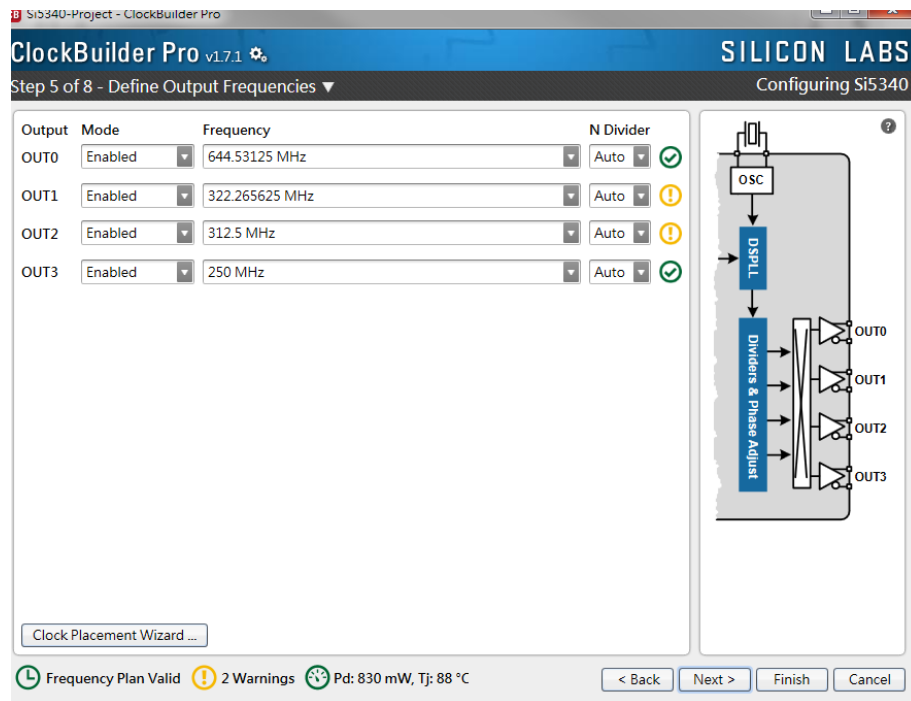

Figure 5-6 Define Output Clock Frequencies on ClockBuilder Pro Wizard
- After the installation, select Si5340, and configure the input frequency and output frequency as shown in **Figure 5-6**.